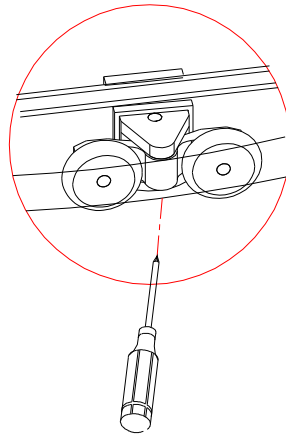

Figure 11
16. Check whether the sliding doors (8) open and close smoothly and, if necessary, align the doors by adjusting the tandem rollers (7), as shown figure 11.